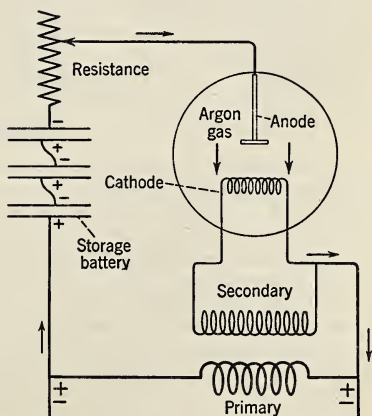

FIG. 740. The tungar rectifier is a device used to rectify alternating current.
3. *Tungar rectifier.* This device finds considerable use for charging storage batteries. It consists of a bulb filled with argon gas at reduced pressure. (See Fig. 740.) The cathode is a coil of tungsten wire, and the anode may be a small cone of graphite or tungsten. The alternating current is so connected with the bulb that the anode and cathode are alternately plus (+) and minus (-). When the anode has a potential several volts higher than the